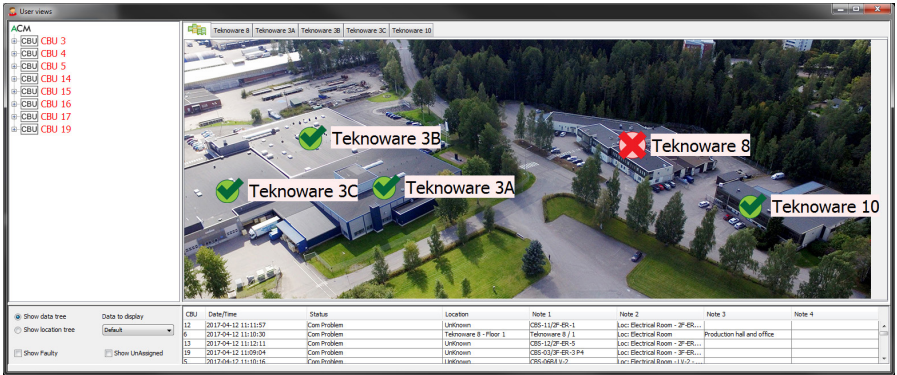

Figure 12. USER VIEWS – Warning present
2. In the Figure 12 above, there is a faulty luminaire or CBU in Building Teknoware 8. The Building is marked with a red X. Simply click the icon to open the Building. Then, check which Area has the red X on the icon, and click that. On the Area view, any faulty Luminaire or CBU will be marked accordingly with red icon.